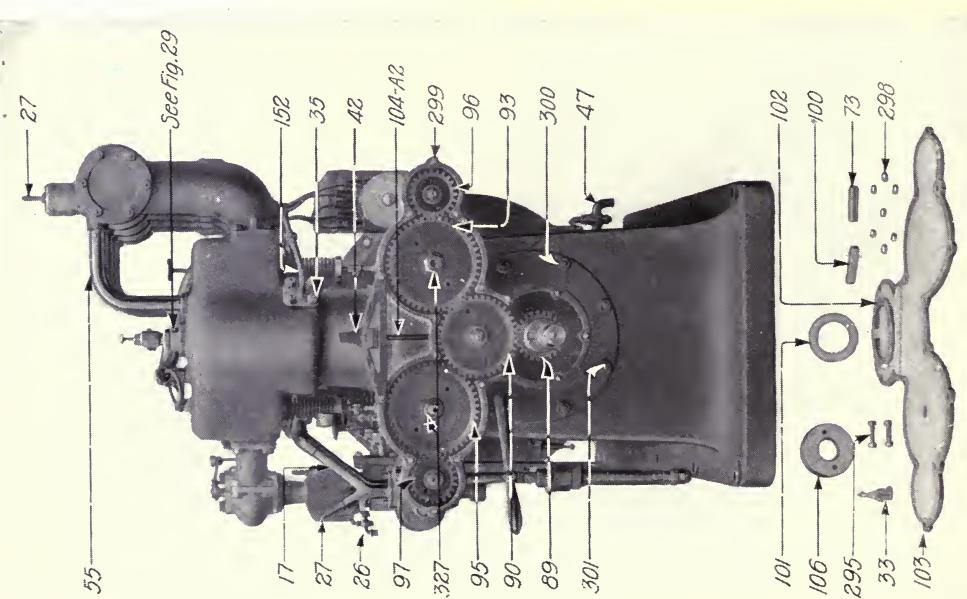

Fig. 66.
**57a. Miscellaneous parts. Engine viewed from flywheel end (flywheel removed).** (See Figs. 66 and 67.)